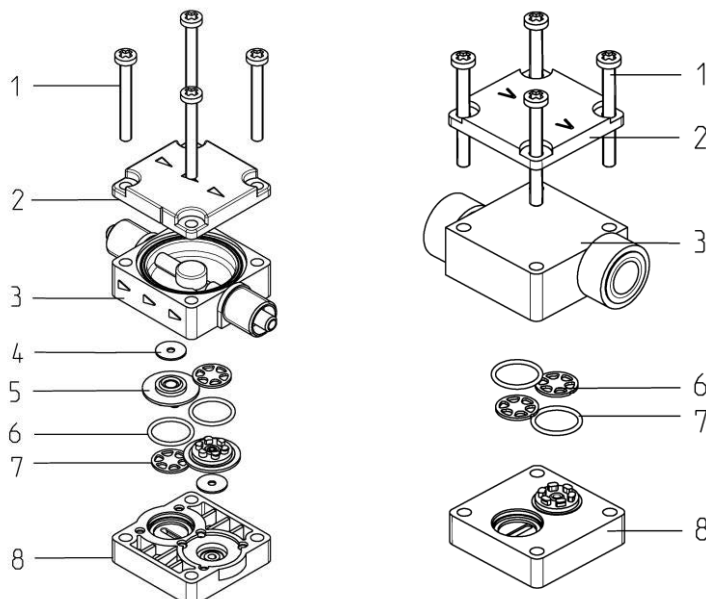

Fig. 68: Head, KT, TT
2. Rinse connecting plate (3) and intermediate plate (8) and wipe with a soft cloth. Blow dry with compressed air
3. Remove valve seats (5) carefully. The sealing washers (4) are not present in the FT head, see Fig. 68
4. Remove O-Rings (6) and valve disk (7).